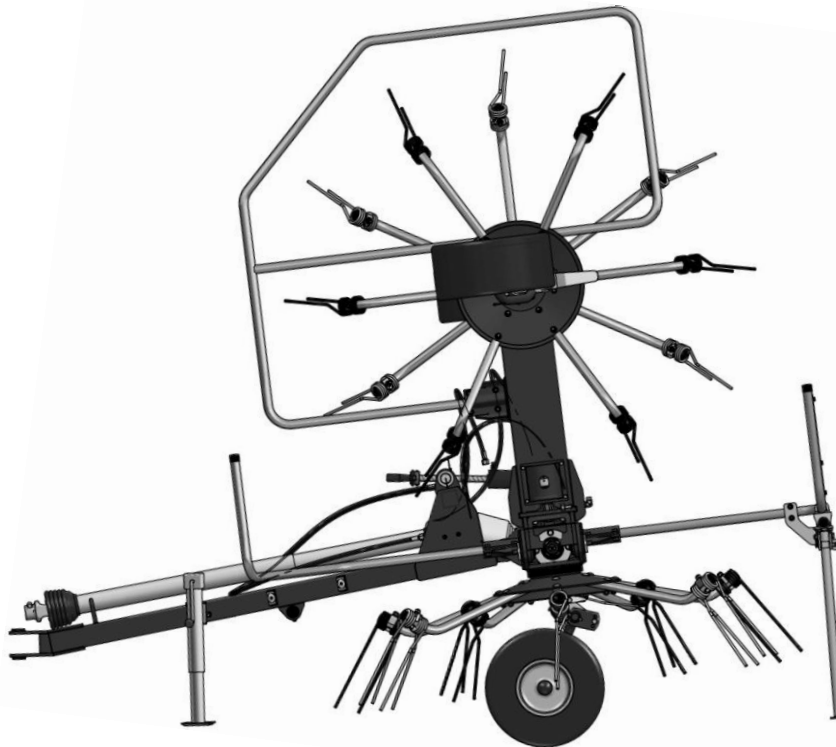

Fig. 15 Rest position A
The machine is equipped with the angle change, distance of the green fodder discharge through the change of the wheel bow fastening. To this end, the wheel bow should be fastened in the upper hole (Fig. 15 1st pos.) or lower (Fig. 15 pos. 2). Remember that the change of the wheel bow fastening results in the change of ground following quality - this relates to the change of the wheel axle position towards the machine frame axle.